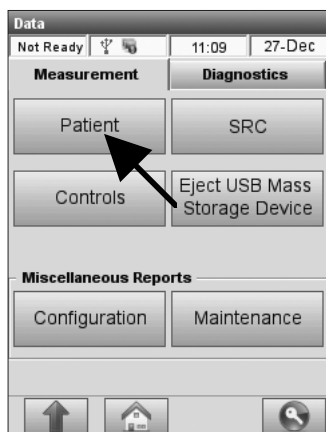

Fig. 6-2 Select Patient Report
2. On the **<Measurement>** tab, select **<Patient>** (Fig. 6-2).